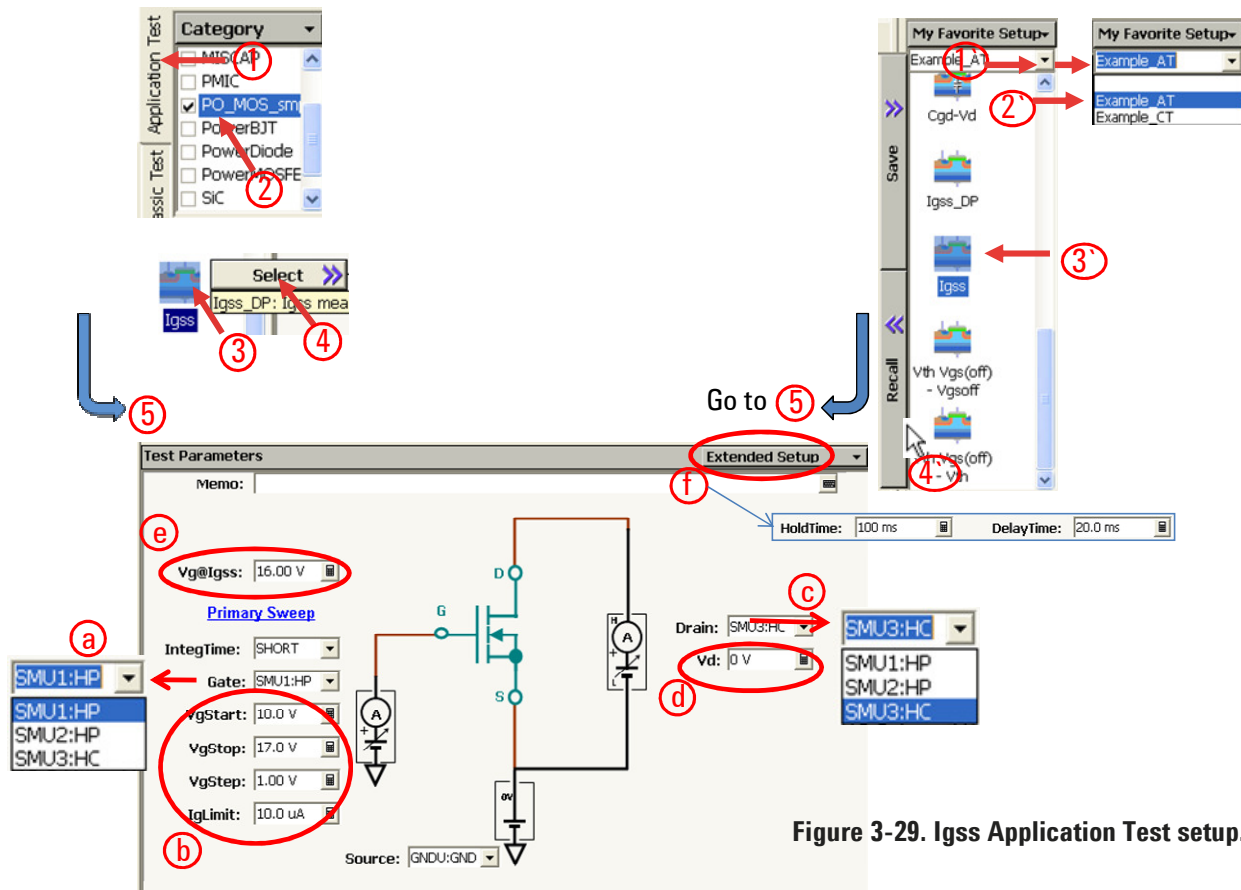

Figure 3-29. Igss Application Test setup.
Setup and execute the test by following the next steps. The same instruction steps are illustrated by the numbers on the "1. Starting from Application Test Library" side of figure 3-29.
Step 5. Set the test parameters shown in figure 3-29 to an appropriate one depending on your B1505A configuration and your test device.
Setup and execute the test by following the next steps. The same instruction steps are illustrated by the numbers on the "1`. Starting from Application Test Library" side of figure 3-29.